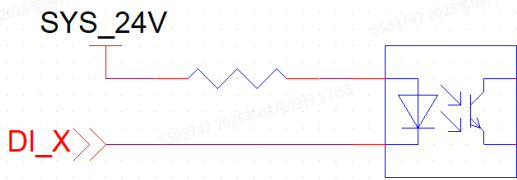

Figure 2-7
- The logic diagram of the interface is shown in "Figure 2-7".